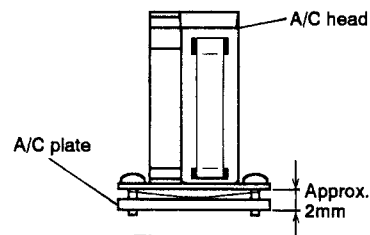

Fig. 3-9-3
- ① Solder the lead wires to the A/C head.
- ② Mount the A/C plate spring and A/C head on the A/C plate. Secure these parts with screws ①, ② and ③ to the dimension shown in Fig. 3-9-3.